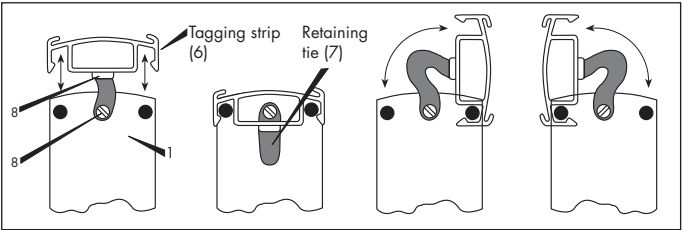

Figure 4.7: Attaching and swivelling a tagging-strip
- f) Clip the tag strip holder (6) onto the mounting posts (1) by pushing it downwards (Figure 4.7).
- g) If required, swivel the tagging strip vertically (Figure 4.7)